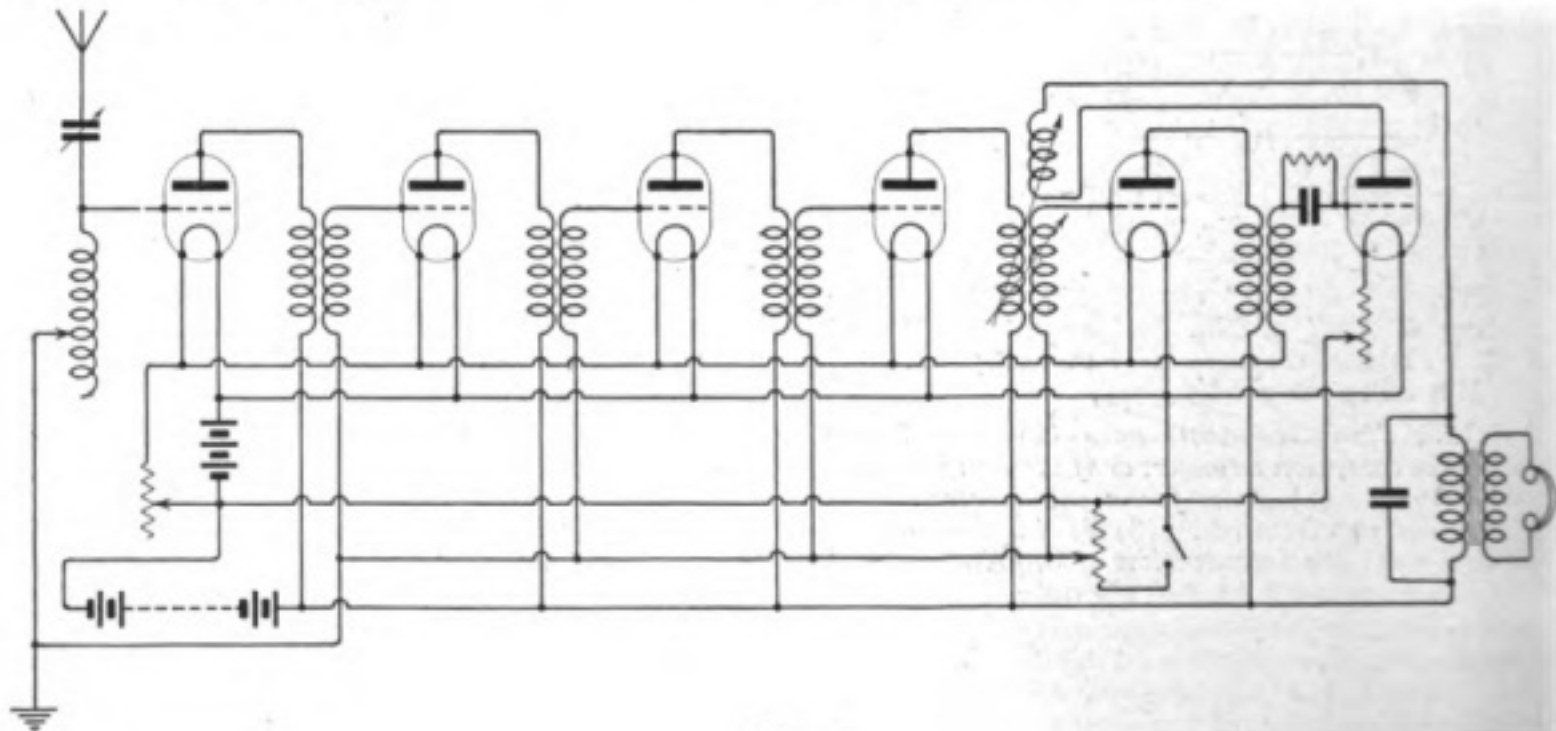

Fig. 4.
For circuit see Fig. 4. It is essential that the transformers should be of precisely the same value as in a multi-valve H.F. amplifier. Should one or two transformers have slightly different values they will filter out wavelengths on which the others are designed to give amplification. With an amplifier of this sort you are advised to adopt a construction for the transformers that will permit of them all being precisely the same. We would recommend you to wind the transformers on a 1" ebonite rod, making primary and secondary each of a single layer and insulated from one another by a single wrapping of empire cloth. Make both windings in the same direction and the finishing ends will go to grids and plates. The rectifying valve should be specially selected to give good rectification, such as "Q," "Qx," or "R4B."
"H.L.F." (Kensington).—(1) Primary, 8" × 6" of No. 22; secondary, 6" × 4" of No. 26. (2) See Fig. 4, page 372, June 17th issue. The grid condenser may be 0.0002 mfd., and the grid leak 2 megohms. (3) Yes.